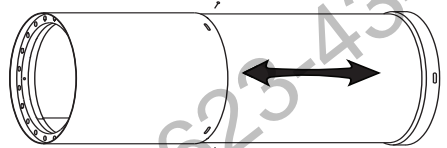

Figure 9
6. Telescoping Pipe (Figure 9)